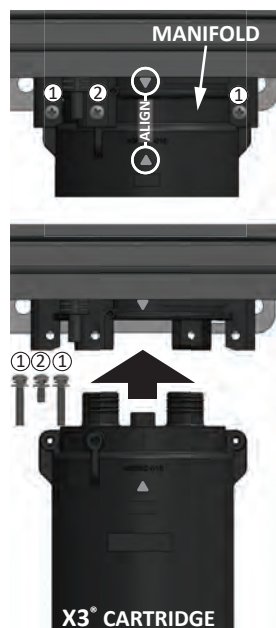

Figure 34 - X3® Cartridge Installation
**2** Locate the three (3) screws located in the hardware bag that is located on the top of the heater carton. Set the one M4-12mm screw and two M4-25mm screws aside in a safe place.
**NOTICE:** The X3® cartridge is keyed to only install in one direction. Align the ▲ on the cartridge with the ▼ on the manifold. When inserting the cartridge, push up until the screw holes align. Some resistance is normal. See Figure 34.
**4** Remove the two long and one short screws securing the X3® Cartridge to the manifold located on the underside of the water heater cabinet. Set the screws aside in a safe place for re-installation. Place a bucket under the water heater cabinet to collect any residual water. Note the order of the screw when removing them. Reference Figure 34.